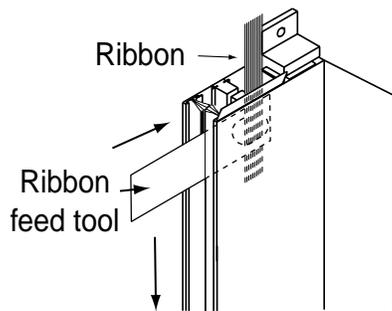

Figure 12
- ③ Wedge something soft, such as Styrofoam, between the spring roller and its headbox to keep the spring roller from moving.
- ④ Feed Kevlar® ribbon down through the side channels to the take-up reels on the motor roller assembly, using the ribbon feed tool provided (see Fig. 12). **Make sure ribbon does not twist: a twisted ribbon will cause shade to lock up.**